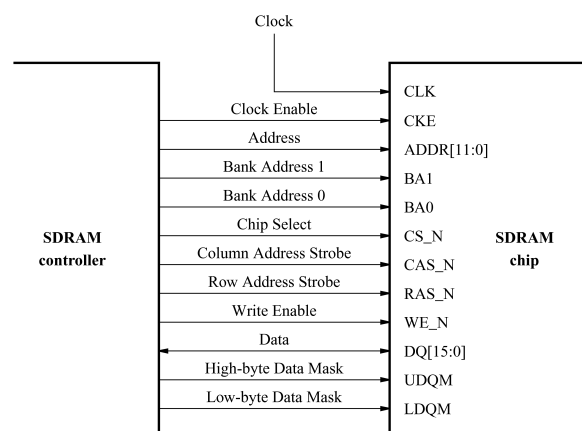

Figure 2. The SDRAM signals.
The SDRAM chip on the DE0 board has the capacity of 64 Mbits (8 Mbytes). It is organized as 1M x 16 bits x 4 banks. The signals needed to communicate with this chip are shown in Figure 2. All of the signals, except the clock, can be provided by the SDRAM Controller that can be generated by using the Qsys tool. The clock signal is provided separately. It has to meet the clock-skew requirements as explained in section 7. Note that some signals are active low, which is denoted by the suffix N.
The Qsys tool generates an HDL file for the system, which can then be instantiated in a VHDL file. The augmented Verilog entity generated by the Qsys tool is in the file *nios\_system.vhd* in the *nios\_system\synthesis* directory of the project. Figure 7 depicts the portion of the code that defines the port signals for the entity *nios\_system*. As in our initial system that we developed in the introductory tutorial, the 8-bit vector that is the input to the parallel port *Switches* is called *switches\_export*. The 8-bit output vector is called *leds\_export*. The clock and reset signals are called *clk\_clk* and *reset\_reset\_n*, respectively. A new module, called *sdram*, is included. It involves the signals indicated in Figure 2. For example, the address lines are referred to as the **output** vector *sdram\_wire\_addr[11:0]*. The **inout** vector *sdram\_wire\_dq[15:0]* is used to refer to the data lines. This is a vector of the **inout** type because the data lines are bidirectional.
A first attempt at creating the new entity is presented in Figure 8. The input and output ports of the entity use the pin names for the 50-MHz clock, *CLOCK\_50*, pushbutton switches, *KEY*, toggle switches, *SW*, and green LEDs, *LEDG*, as used in our original design. They also use the pin names *DRAM\_CLK*, *DRAM\_CKE*, *DRAM\_ADDR*, *DRAM\_BA*, *DRAM\_CS\_N*, *DRAM\_CAS\_N*, *DRAM\_RAS\_N*, *DRAM\_WE\_N*, *DRAM\_DQ*, *DRAM\_UDQM*, and *DRAM\_LDQM*, which correspond to the SDRAM signals indicated in Figure 2. All of these names are those specified in the DE0 User Manual which allows a file called *DE0\_pin\_assignments.qsf* to be imported as the pin assignments. This file is included on the CD-ROM that accompanies the DE0 board and can also be found on Altera's DE0 web page.
--          SDRAM ports correspond to the signals in Figure 2; their names are those